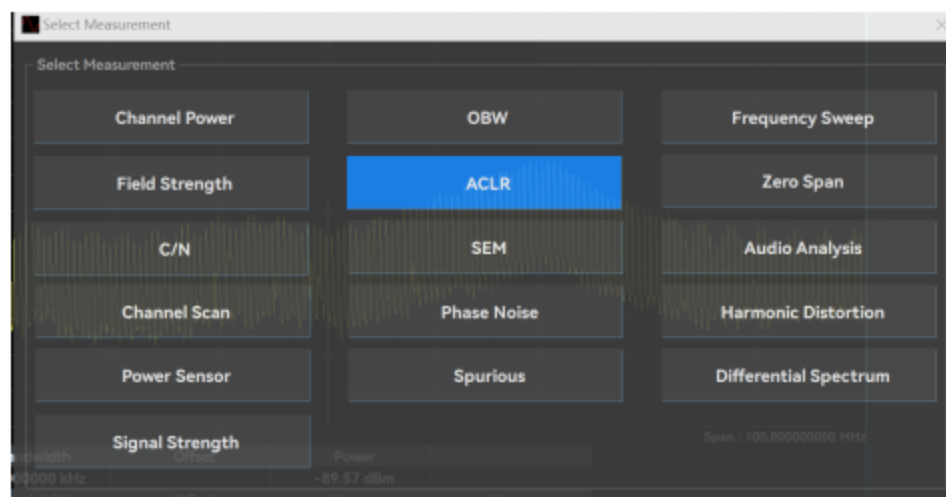

Figure 5.14 Select the measurement interface diagram
- Press [measurement], select [adjacent channel leakage suppression ratio] test function, the interface display as shown in Figure 5.14: